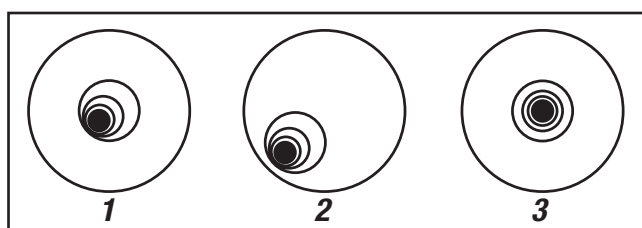

Fig. 16. Defocused star images. Misaligned (1, 2), aligned (3)
- b. While looking at the defocused star image, notice which direction the darker shadow is offset in the ring of light or notice which part of the ring is the thinnest (Fig. 16,1). Place your index finger in front of the telescope so that it touches one of the collimation set screws. You will see the shadow of your finger in the ring of light. Move your finger around the edge of the black plastic secondary mirror support until you see the shadow of the finger crossing the thinnest part of the ring of light. At this point, look at the front of the telescope where your finger is aiming. It will either be pointing directly at a set screw, or it will be between two set screws aiming at the set screw on the far side of the black secondary mirror support. This is the set screw that you will adjust.
slew speed, move the defocused image to the edge of the eyepiece field of view (Fig. 16, 2), in the same direction as the darker shadow is offset in the ring of light.
- f. When you bring the image to center (Fig. 16, 3), carefully examine the evenness of the ring of light (concentricity). If you find that the dark center is still off in the same direction, continue to make the adjustment in the original turning direction. If it is now off in the opposite direction, you have turned too far and you need to turn in the opposite direction. Always double check the image in the center of the field of the eyepiece.